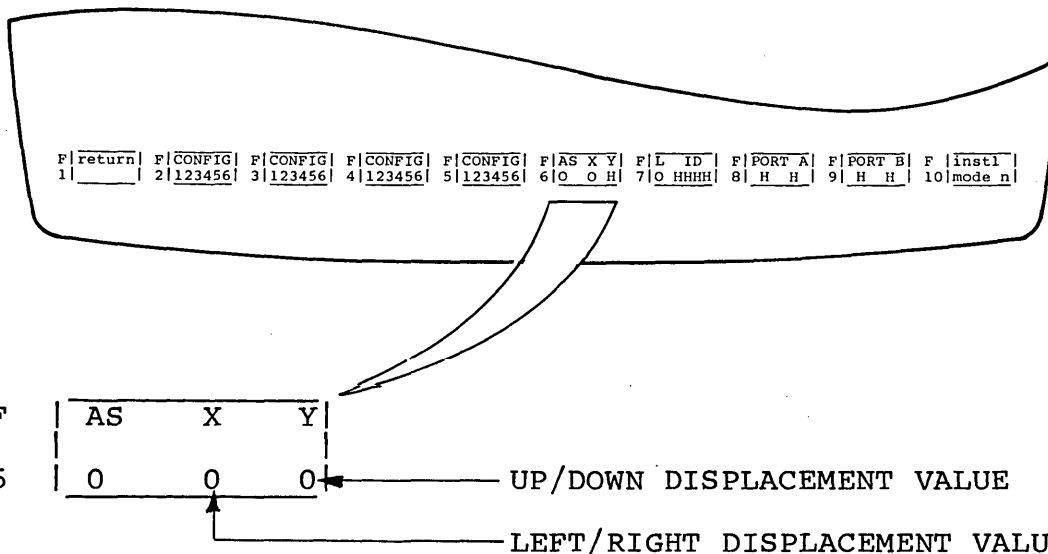

Figure B-1. Terminal Installation Parameters
5. Press CTRL and SETUP keys. This will display terminal installation parameters. (See figure B-1.)